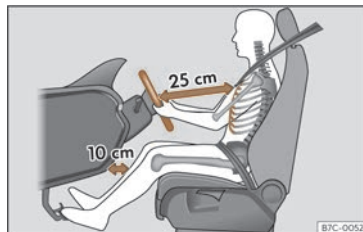

Fig. 16 The correct distance between the driver and the steering wheel must be at least 25 cm (10 inches).
- Adjust the steering wheel so that it is at a distance of at least 25 cm (10 inches) from the sternum >>> Fig. 16 and you can hold it with both hands on the sides, on the outside, with your arms slightly flexed.